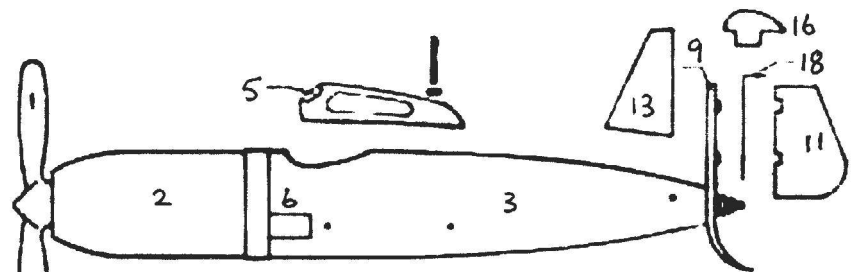
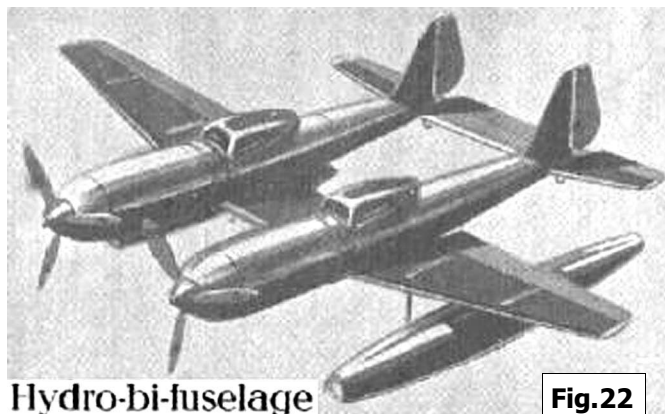

Fig.15
Fig.22
low wing model. (Each of one pair of David's Upper Wing Skins has a 3.5mm hole near the root and if extended through to the Lower Panel it would pass through the tongues of the Wing Bracket #12. The holes are a little rough and were perhaps a 'DIY' job by someone who wanted to bolt the wings in place. But notice that in Fig.15 there is a dot, which could be a hole, in the tongues of the Wing Bracket #6, and matching dots in the Wing Panels #19 next to it.) This problem disappeared in Phase 3 with the advent of the Full-span Spar for the low wings. Third: the wing/fuselage junction is unsatisfactory. The wing's Leading Edge & Aileron end well short of the fuselage, as in Fig 20, and this is the more noticeable because of the small square cutouts at each end of the root of the Wing Panels (needed to make a neat joint between the Centre and Outer Skins in the top wing). Matters are worse underneath, as in Fig 20a, because the curvature of the fuselage increases the gaps (the blue parts are the Upper Wing Panels tight against the fuselage. Eventually, at some point in Phase 3, the cutouts were dropped and the length of the Lower Wing Skin increased by 5mm.
**Fuselage:** #1 Propeller. #2,3,4 Forward, Centre, Rear Fuselage. #3 & #4 were soon combined to be one part, as in Fig 15. #5 Cockpit Canopy. An aluminium pressing. #6 Wing Bracket. #7 Circular Frame. #8 Tail Spar. #9 Fin Spar. #10 Fuselage Centre Rod. #41 Axe de l'hélice, not seen. Possibly a sleeve on Rod #10, perhaps locked to it with Nuts, on which the Propeller is free to turn.
**Empennage:** #11 Rudder. #12 Elevator. #13 Fin. #14 Tailplane. #15,16 Tail,Fin Tip. #17 Elevator Leading Edge Wire (see Fig.15). #18 Rudder Pivot Wire, see Fig.15. #42
Tailplane Pivot, not seen but see Fig 15 and bottom left in Fig 26.
**Centre Parts** used in the 'twin-fuselage' models, an example of which is shown in Fig 22: #30,31 Upper, Lower Centre Wing Skins. #32 Centre Wing Leading Edge. #33 Centre Wing Spar, 7.5cm long. **NB.** The 2 Centre Wing Spars, 7.5cm long, are spaced by 2 Ribs #28. #34 Traverse d'assemblage, not seen or shown in MCS but probably a Brace
**The Sets & Models** As in Phase 1 there were two basic sets, Nos.1 & 2. No.1 was broadly equivalent to the Phase 1 outfit and allowed the propeller, and probably, as explained earlier, the jet variant of the Low Wing Monoplane to be made. Set 2 was very different to the earlier outfit. It included floats but otherwise the extra pieces were another fuselage and sufficient parts to allow two basic models to be made at the same time, or a twin-fuselage model similar to the type in Fig 22.
**No.4 Set [Av3-1]** (Figs 22,23) This outfit is in a blue repro box with a new style label. The parts, on 2 plain yellow cards, seem to be similar to a Phase 2 No.2, except that only one set of wing & tailplane/elevator parts can be seen, and only one Centre Wing Skin. If the Set is complete, as was claimed, the 2 Centre Skins must be one on top of the other, and if so other parts could be similarly stacked. But even then there are only 2 main U/C Legs and so if two models at the same time were possible one would have to be a floatplane. Of the new Phase
The booklet with the Set is shown right and B&W photos of models can be seen inside it, 2 to a page. One is shown in Fig 22, and other model names mentioned are Chasseur à Réaction and Chasseur Météore for the Low Wing Jet and Propeller models; and Chasseur Thunderjet. Also shown was a sheet with detailed instructions including the drawing at Fig 15.